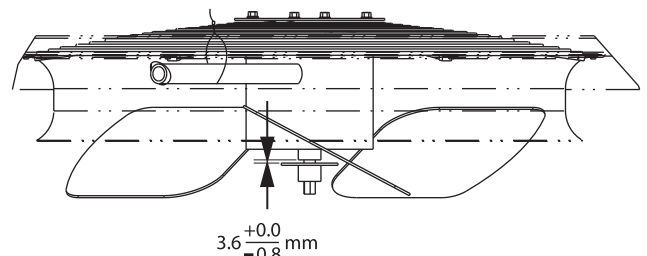

Fig. 26 — Condenser Fan Adjustment
4. Adjust the fan height as shown in Fig. 26.